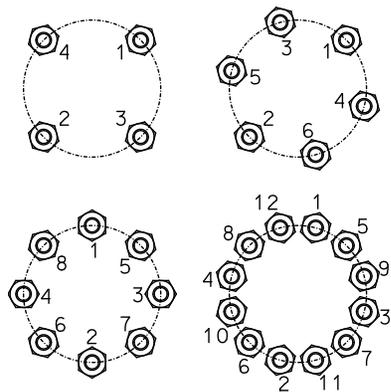

Figure 1
Bonnet leakage, like stem leakage, must be stopped as soon as it is detected. In addition to the obvious hazards of a leak, allowed to go unchecked, the gasket sealing surface on the body or bonnet may be eroded requiring the replacement of one of these major components. Tighten bonnet bolts to the maximum torque shown in Table 2. Follow the appropriate pattern shown in Figure 1. It is advisable to bring the fasteners up to the specified torque level in two equal steps. When doing the final torque check, torque adjacent bolts clockwise around the pattern. If the bonnet leak continues, de-pressurize the valve and replace the bonnet gasket. When installing a new spiral wound gasket always place the last rings tie-in spot-weld directly under the #1 fastener.
- Press the bonnet assembly down against the valve body using care not to damage the bonnet gasket. Apply a small amount of anti-seize compound to all fasteners. Insert the bonnet bolts or studs and nuts and torque to the value shown in Table 2 using the appropriate pattern illustrated in Figure 1.